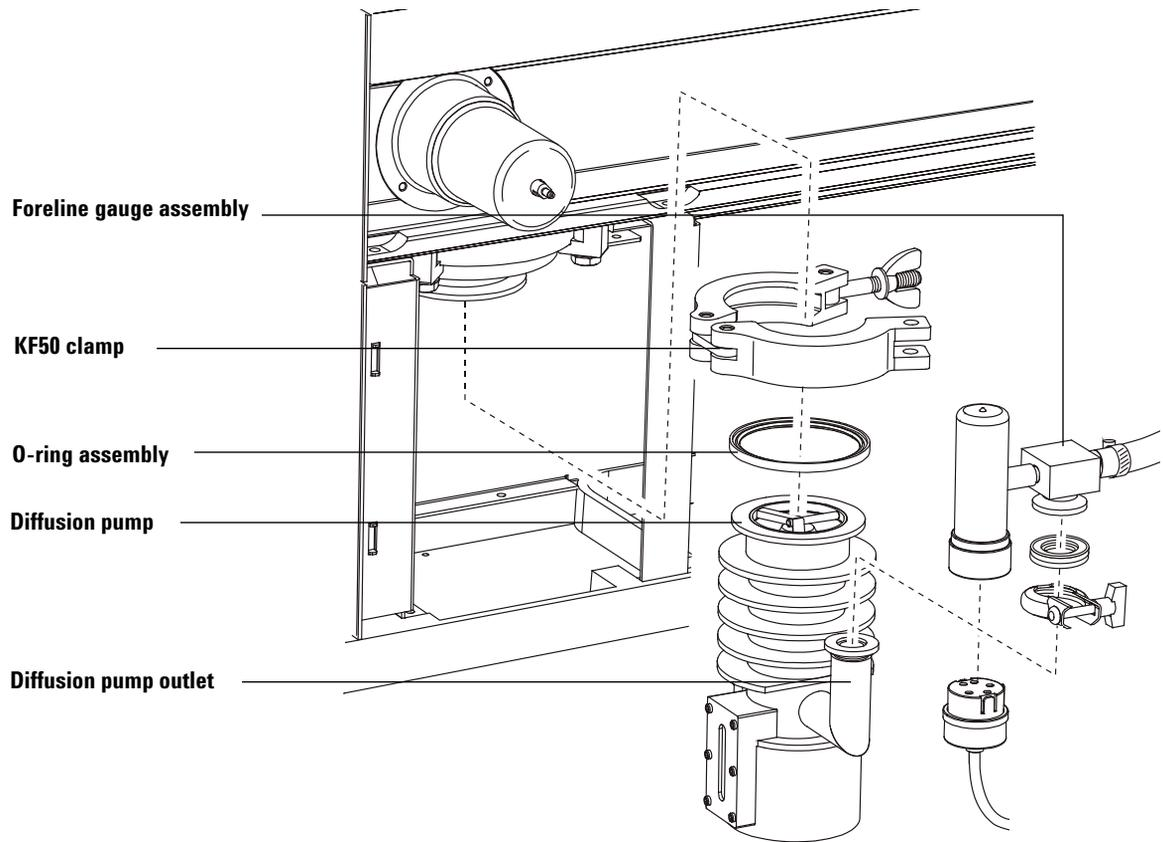

Figure 13 Installing the diffusion pump
- 3** Install the O-ring assembly on the diffusion pump. See Figure 13 on page 114.